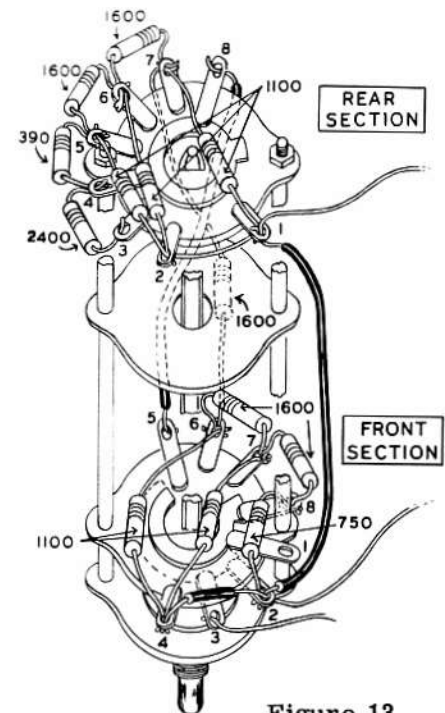

Figure 13
- () Locate switch #63-107 and position it as shown in Figure 13.
- (X) Connect a 750 Ω resistor between lug 2 (NS) and lug 8 (NS) on the front section.
- (X) Connect a 1600 Ω resistor between lug 8 (S) (2) and lug 7 (NS) on the front section.
- () Connect an 1100 Ω resistor between lug 4 (NS) and lug 7 (NS) on the front section.
- (X) Connect another 1600 Ω resistor between lug 7 (S) (3) and lug 6 (NS) on the front section.
- (X) Connect another 1100 Ω resistor between lug 6 (NS) and lug 4 (NS) on the front section.
- (X) Connect a third 1600 Ω resistor between lug 6 (S) (3) on the front section and lug 7 (NS) on the rear section.
- (X) Connect a bare wire (cover with sleeving) between lug 5 (S) on the front section and lug 8 (S) on the rear section.
- (X) Connect a 3" bare wire between lug 4 (S) (3) and after slipping a 1/2" length of sleeving on, place the lead through lug 2 (NS) on the front section. Leave the excess bare wire for eventual connection to a binding post.
- (X) Connect a 1 1/2" bare wire to lug 3 (S). Leave the other end for eventual connection to the load switch.
- (X) Connect a 3" bare wire to lug 2 (S) (3) on the front section and after slipping on a 1" length of sleeving, place through lug 1 (NS) on the rear section. Leave the excess length for eventual connection to the controls.